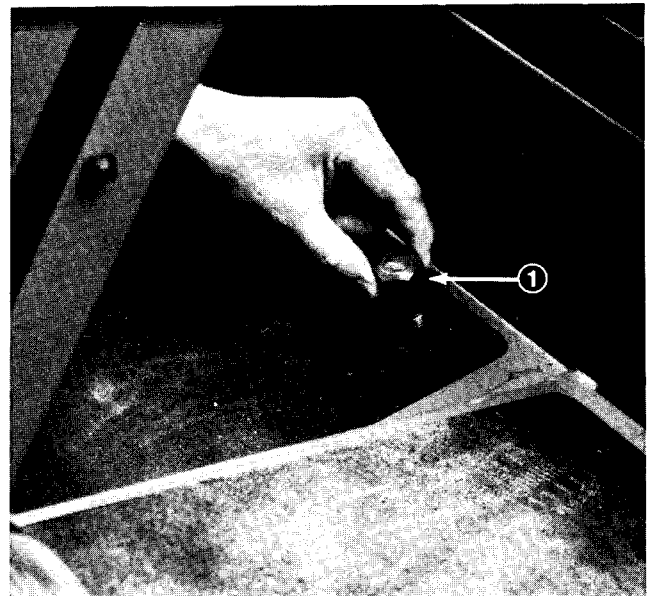
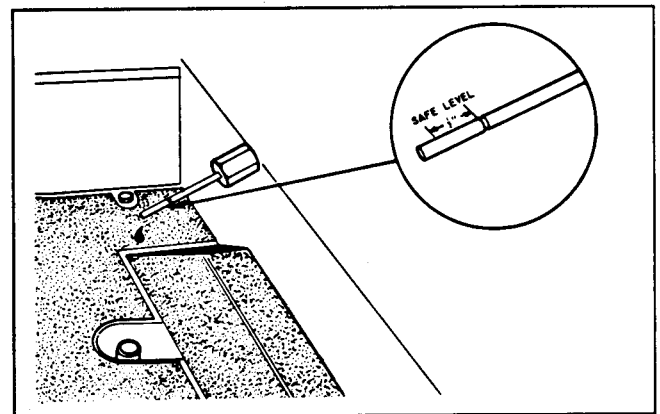

Figure 6
Figure 7
2. To prevent contamination, clean the area around the dipstick cap. Unscrew and remove the dipstick cap (Fig. 6) from the filler neck and wipe it with a clean rag. Screw the dipstick cap FINGER TIGHT ONLY onto the filler neck. Unscrew the dipstick and check the level of the oil. If the level is not within 1/2 inch (13mm) from the groove in the dipstick (Fig. 7), add enough oil to raise the level to the groove mark. DO NOT OVERFILL.